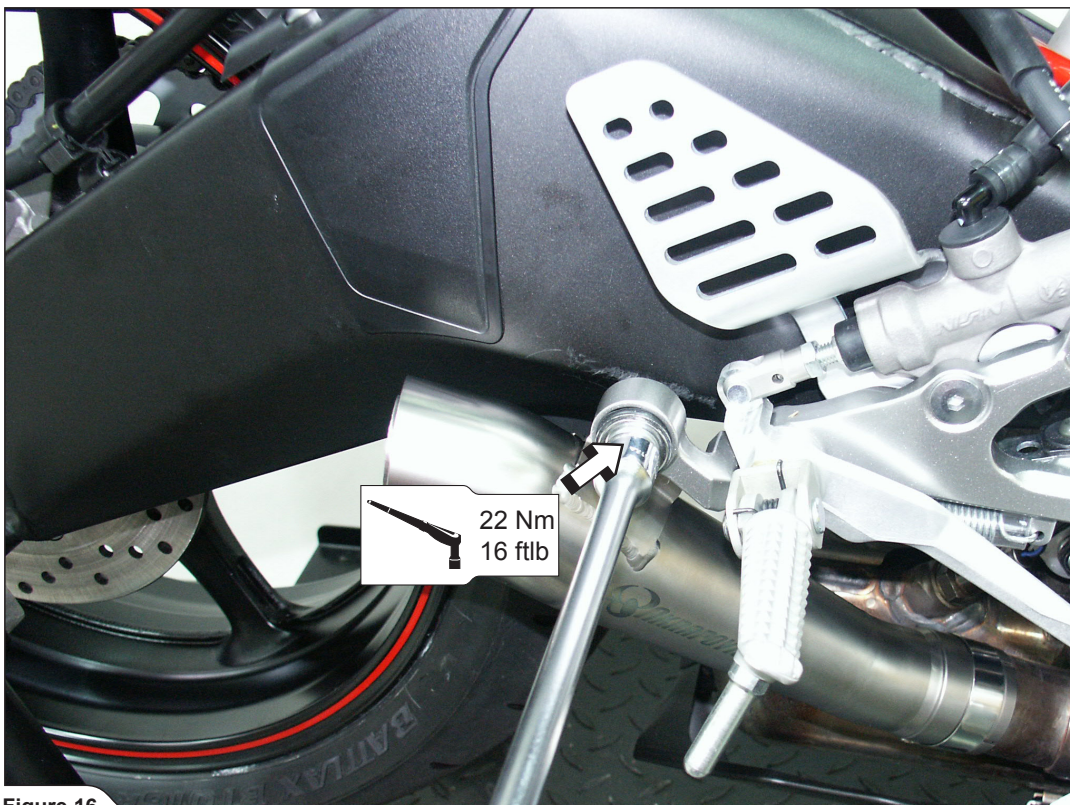

Figure 16
2. Position the muffler or megaphone correctly and slide it onto the outlet of the stock collector. Align the muffler or megaphone in respect to the motorcycle and tighten the bracket, using stock bolt and washer (Figure 16).